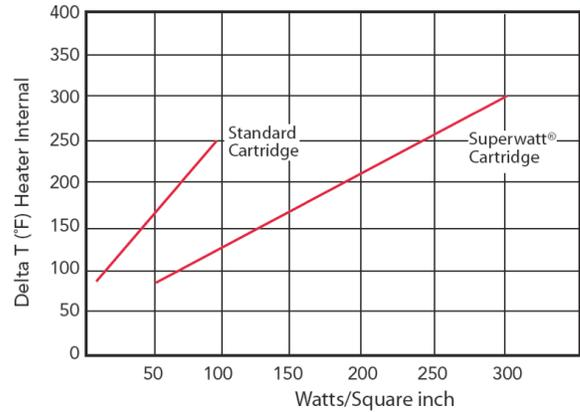

Figure 7: Internal temperature differential for standard and superwatt cartridge heaters as a function of watt density. Source: Backer Hotwatt
5. From Figure 7 determine the heater internal Delta T (Temperature drop) 5. _____